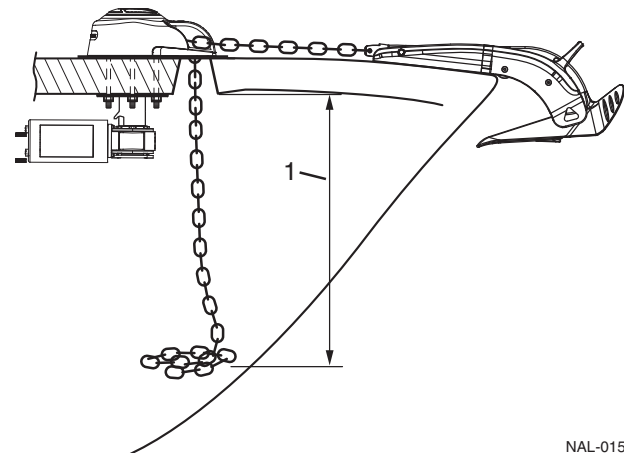

Figure 4-5
- ◆ Maximum vertical (**Figure 4-5, 1**) unrestricted free-fall of the chain/rope rode into the locker from the gypsy when hauling in